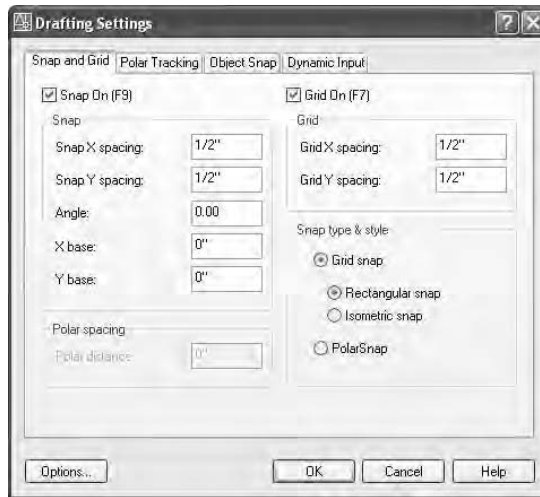

FIGURE 3.7: The Snap And Grid tab of the Drafting Settings dialog box
1. Right-click the Grid button on the status bar, and choose Settings from the small menu that opens. The Drafting Settings dialog box opens, and the Snap And Grid tab is active (see Figure 3.7). The settings in both the Grid and Snap areas include X and Y Spacing settings. Notice that they are all set for a spacing of $\frac{1}{2}$ ". The other settings in the dialog box don't concern us right now.